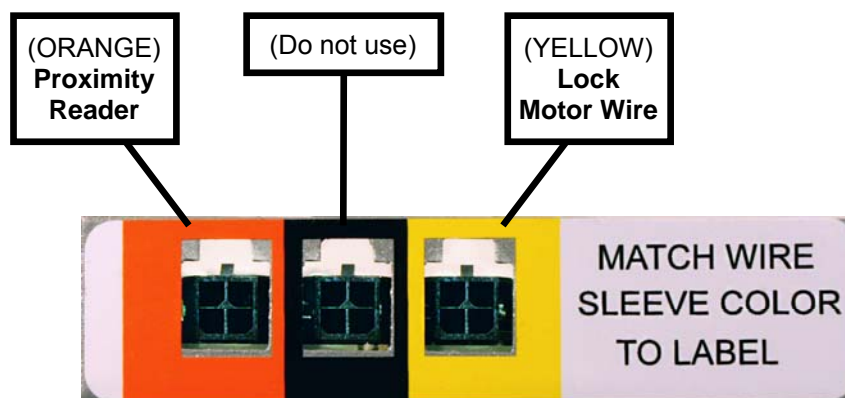

FIG. 10: MORTISED NETWORKX CONTROL MODULE CONNECTIONS
The rear of the **Mortised Networkx Control Module** has three (3) sockets labeled with the colors **Orange**, **Black** and **Yellow**. Simply match the colors of the plug wire sleeves to the colors of the sockets (the middle **Black** socket is currently not used and is reserved for future use). See Fig. 10.